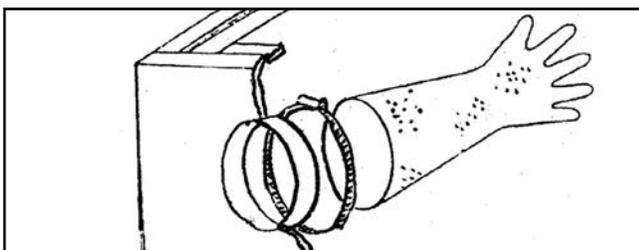

Figure 4. Glove installation.
4. Install gloves as shown in Figure 4.